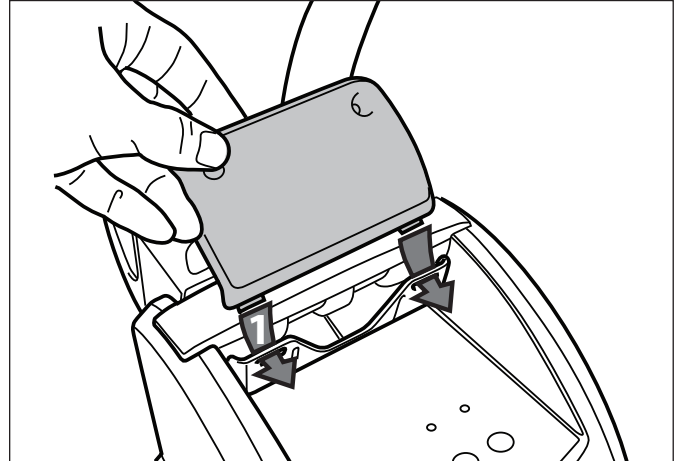

Figure 13. Position the Locking Plate Clips
- Slide the locking plate clips into the control hook and line up the screw holes. Refer to Figure 13.